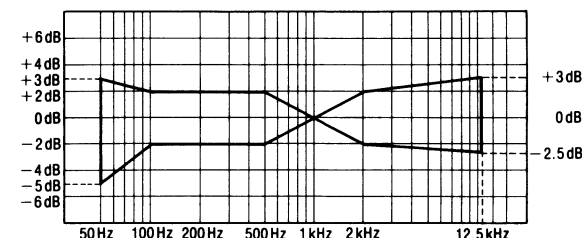

Fig. 8
5. Playback the recorded signal and assure that it is within the range shown in Fig.8 in comparison to the reference frequency (1 kHz).